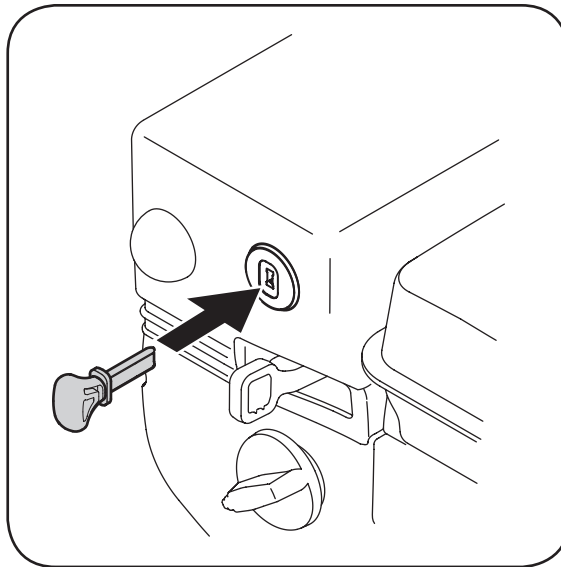

Figure 2-5: The ignition key is a safety device.
2. Insert ignition key fully into slot, Figure 2-5. Make sure it snaps into place. DO NOT turn ignition key. **The engine cannot start unless the key is inserted into ignition switch.**